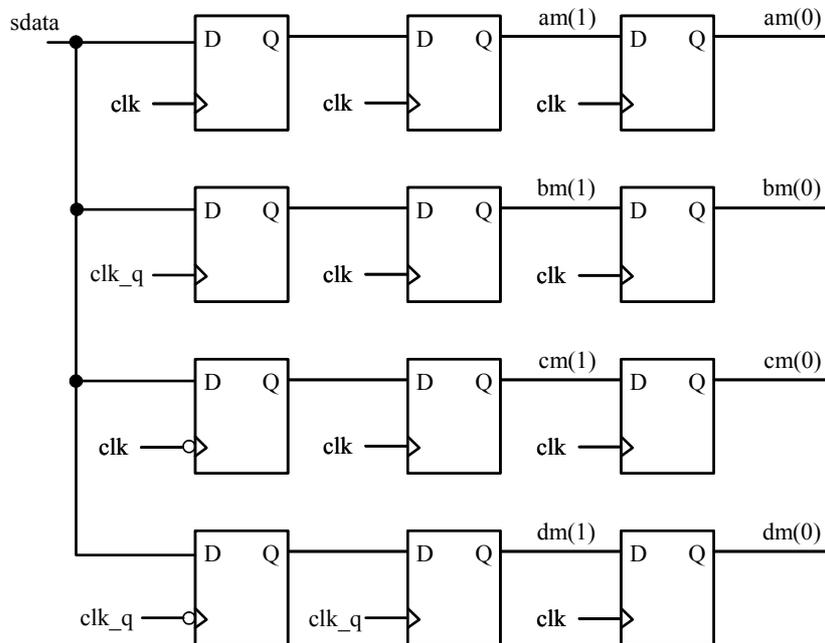
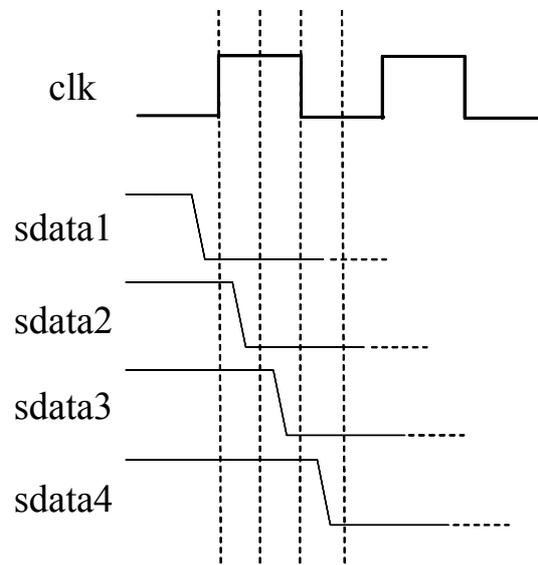

Figure 2.
Figure 3.
2. Within the system considered we also have another subsystem as shown in figure 2:
3. Using exclusively combinational logic functions, modify the system in figure 2 to make it able to produce a valid sample of input signal *sdata*. **Hint:** To answer this question it is convenient to consider the 4 different possible situations of signal *sdata* with respect to signal *clk* as shown in figure 3.